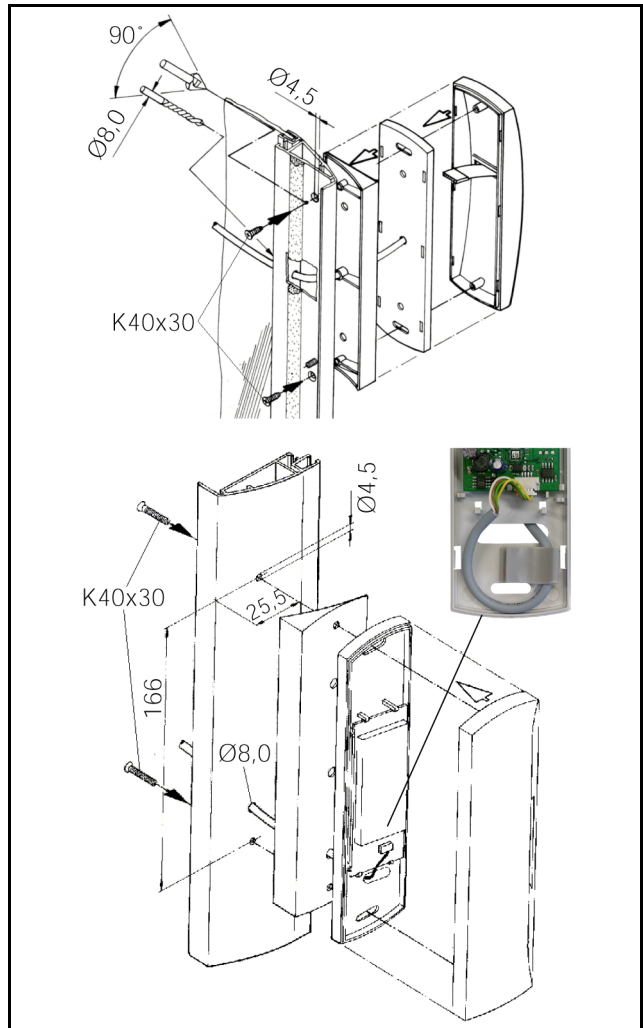

Fig. 2: TS glazed door installation
- Drill suitably sized holes at the required part of the frame of the TS glazed door (fig. 2).